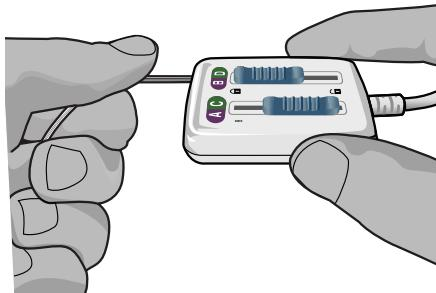

Figure 6: Securing the DBS Lead into the 2x8 OR Cable Connector
6. Push the end of the DBS Lead into the port until it stops. Hold the DBS Lead in place while sliding the locking lever to the locked (🔒) position (Figure 6).